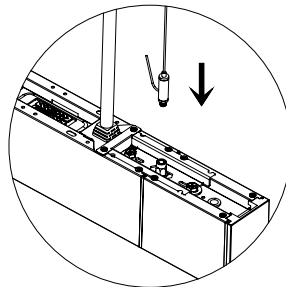

Figure 3
3. Attach the Suspension Cable to the Connection Plate (Fig. 3 & 4)